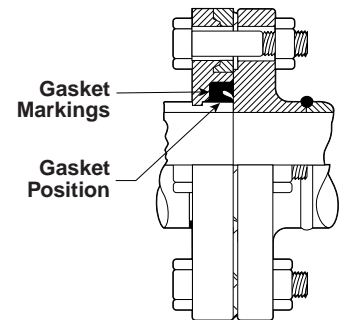

Figure 2
3. Install the gasket onto the pipe end. Make sure the gasket is properly positioned, as shown in Figure 2 below. **NOTE:** The markings on the outside of the gasket must face the Style 441 flange adapter.